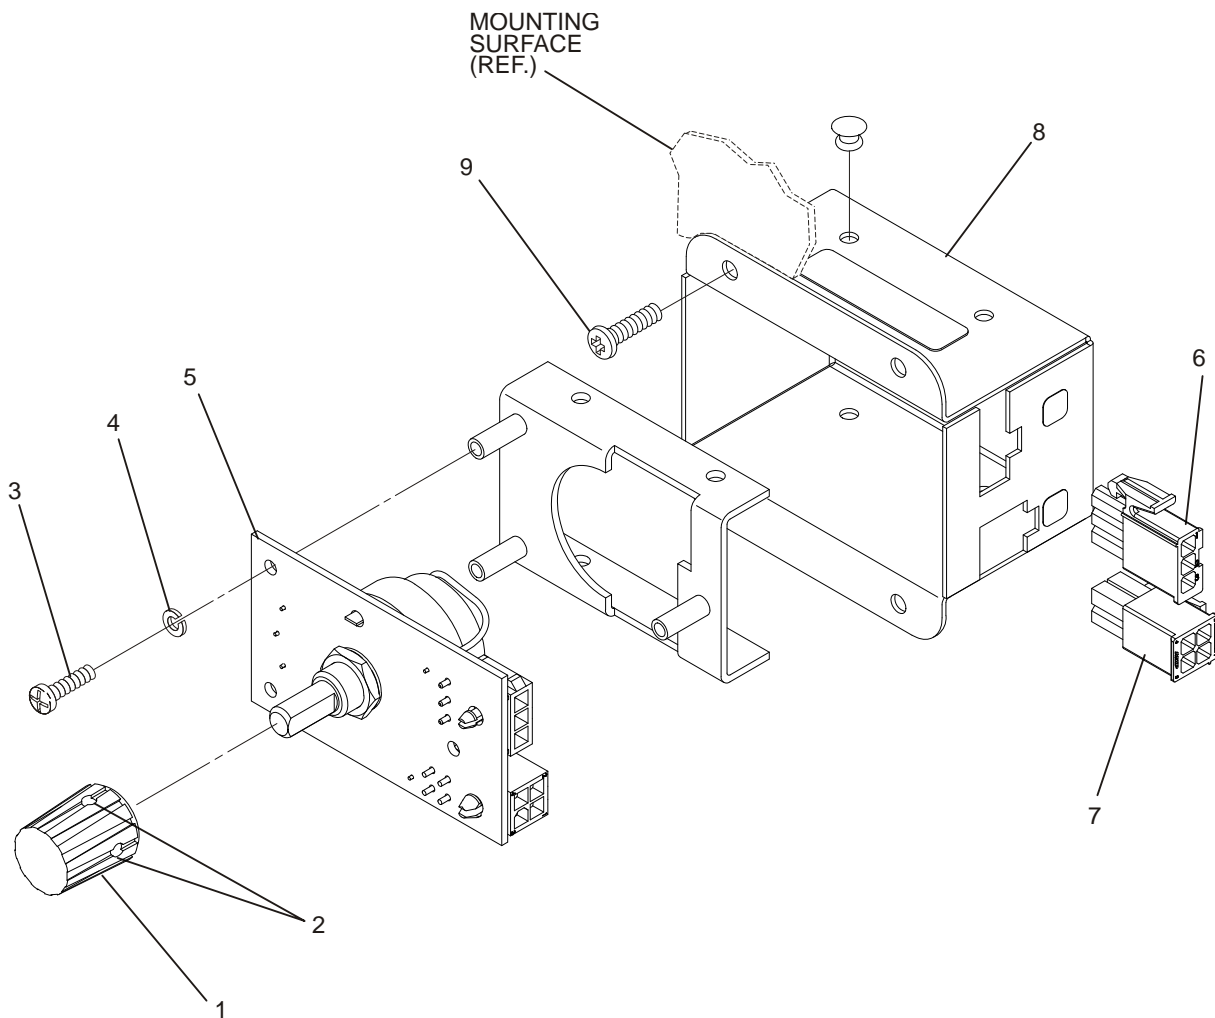

Figure 7-5: Replace Cab Console Light Dimmer Control
2. Rotate the knob (1, Figure 7-5) fully counter-clockwise and note the position of the two set screws on the side of the knob.
3. Loosen two set screws (2) on the side of the knob.
4. Remove knob (1).
6. Remove four screws (9) holding the housing (8) to its mounting surface.
7. Partially remove the housing (8) from its mounting surface.
8. Disconnect one three-circuit nylon connector plug (6) and one four-circuit nylon connector plug (7) from the dimmer control PC board (5).
9. Remove three 4-40 x 7/16 Phillips head screws (3) and three #4 split lock washers (4) from the PC board assembly (5).
10. Install the replacement dimmer control PC board (5) with three 4-40 x 7/16 Phillips head screws (3) and three split lock washers (4).
11. Connect one three-circuit nylon connector plug (6) and one four-circuit nylon connector plug (7) to the dimmer control PC board (5).